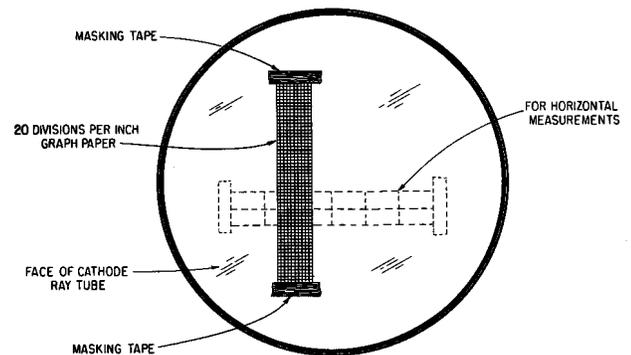

Fig. 1 – Method of Attaching Scale to Cathode Ray Tube
- (d) Attach a piece of graph paper (20 divisions per inch) approximately 3 inches (60 divisions) long and 1/2 inch wide to the face of the cathode ray tube vertically or horizontally as illustrated in Fig. 1.